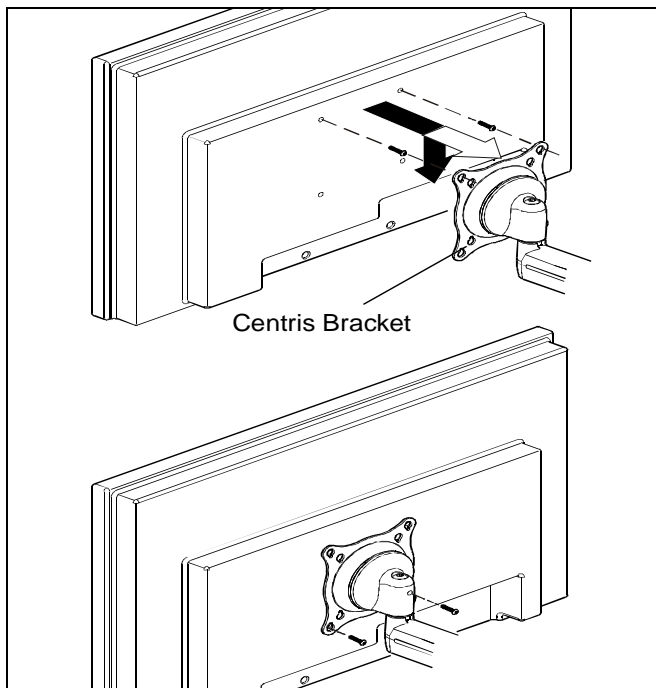

Figure 1
2. Remove the four M4 x 12mm or M4 x 8mm screws from the Centris bracket and carefully remove the display. (See Figure 1)
6. Replace the four screws removed from the Centris bracket with four M4 x 12mm button head security screws (AC) or M4 x 8mm (AB) included in this kit. (See Figure 1)